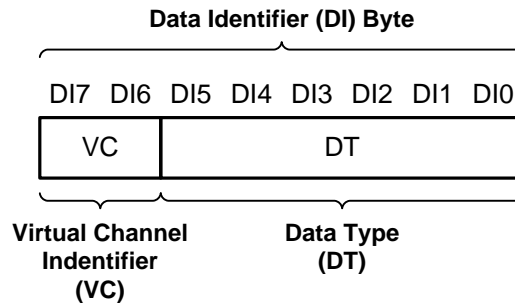

Figure 23. CSI-2 Data Identifier Structure
The DS90UB936-Q1 MIPI CSI-2 protocol interface transmits the data identifier byte containing the values for the virtual channel ID (VC) and data type (DT) for the application specific payload data, as shown in Figure 23. The virtual channel ID is contained in the 2 MSBs of the data identifier byte and identify the data as directed to one of four virtual channels. The value of the data type is contained in the six LSBs of the data identifier byte. When partnered with a DS90UB935-Q1 serializer, the Data Type is passed through from the received CSI-2 packets. When partnered with DS90UB933-Q1 or DS90UB913A-Q1 the received RAW mode data is converted to CSI-2 Tx packets with assigned data type and virtual channel ID and matches what is sent by the video source.